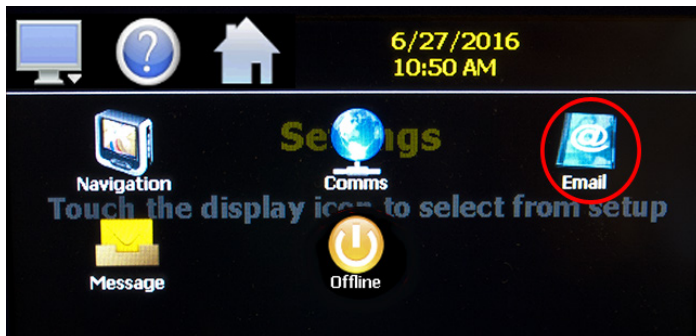

Fig. 93: Email Icon
1. The e-mail settings are accessed by selecting HOME - MONITOR - SETTINGS - MONITOR - EMAIL icons (Fig. 93).